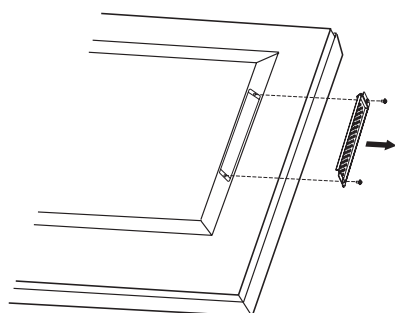

Figure 1
- Remove the attached slot cover by unscrewing the installed screws (**Figure 1**).